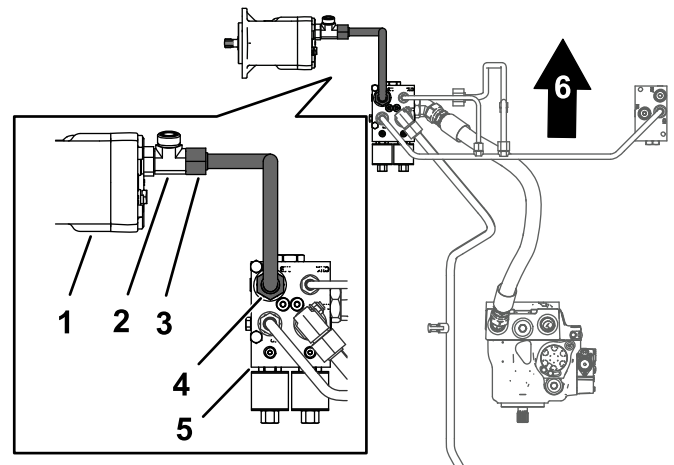

Figure 11
1. Align the tube nuts for the traction-motor tube to the fittings in the traction motor and the flow-divider manifold (Figure 11).